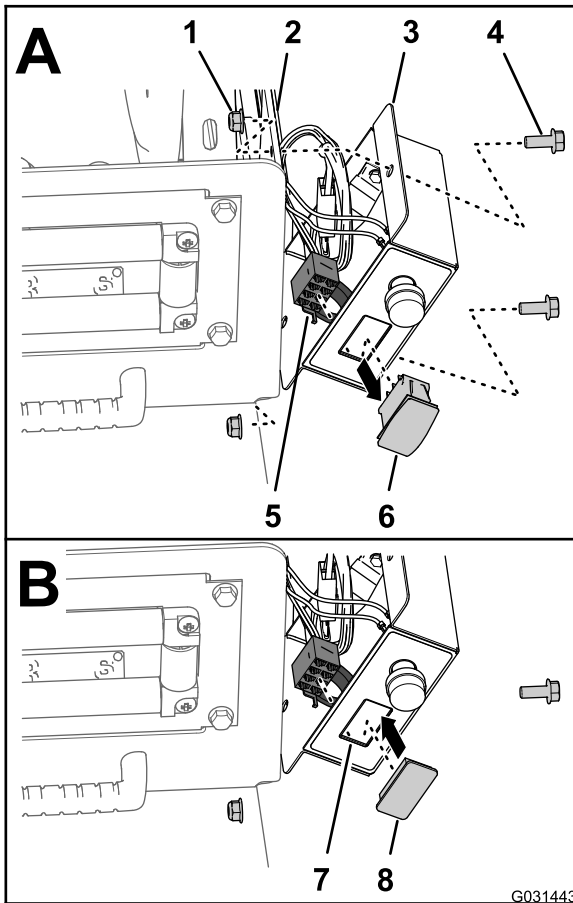

Figure 7
1. Remove the 2 bolts (5/16 x 3/4 inch) and 2 locknuts (5/16 inch) that secure the control box to the reel-mounting plate (Figure 7).
2. Disconnect the 8 socket connector for the control box harness from the pressure-control switch (Figure 7).
3. Route the 8 socket connector inside the control box (Figure 7).
4. Squeeze the lock tabs of the pressure-control switch and press the switch out of the control box (Figure 7).
5. Align the switch plug to the opening in the control box where you removed the switch (Figure 7).
6. Insert the switch plug into the control box until the plug snaps into the cover securely (Figure 7).
7. Align the control box to the reel-mounting plate (Figure 7) and secure the box to the plate with the 2 bolts (5/16 x 3/4 inch) and 2 locknuts (5/16 inch).